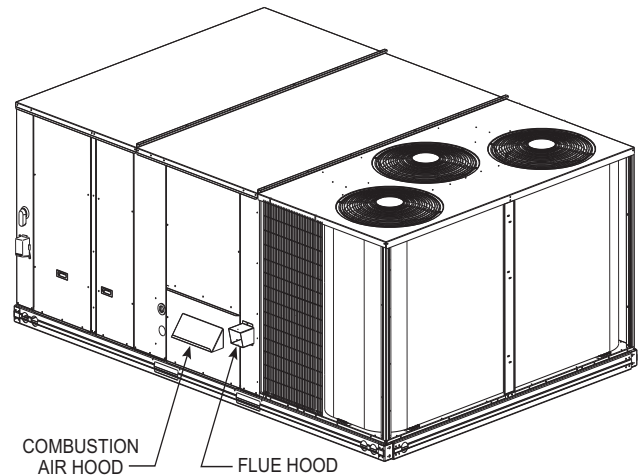

Fig. 17 — Flue Hood and Combustion Air Hood Details
Step 9 — Install Flue Hood and Combustion Air Hood — The flue hood is shipped screwed to the fan deck inside the burner compartment. Remove the burner access panel and then remove the flue hood from its shipping location. Using the screws provided, install flue hood and screen in location shown in Fig. 17.
re-attach the hood to the front of the burner access panel as shown in Fig. 17.